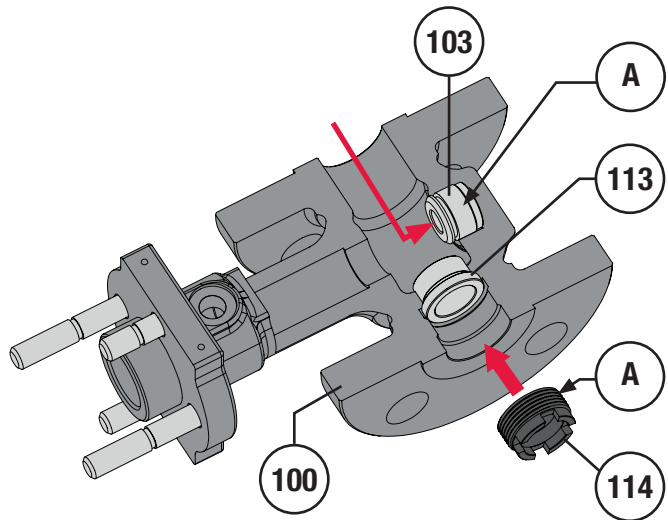

Figure 42 Body Assembly - Steps 1 to 3
- 3 Apply Permatex® Nickel Anti-Seize (Key A) to the lower guide bushing (Key 103) and install it into the valve body (Key 100) as shown in Figure 42. The extraction groove in the lower guide bushing or seal bushing must be visible. **NOTE:** Seal bushings (Keys 104 & 109) are equipped with two o-rings (Keys 105, 106 & 110). Apply Dow Corning Molykote® 5 (Key B) to the o-rings and install them in the upper and lower seal bushings, install the seal bushings the same as the guide bushings.